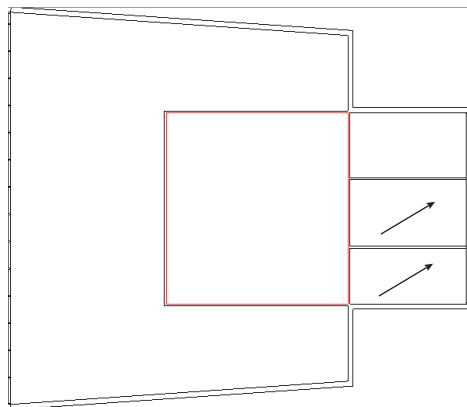

FIGURE 1.23 Add the wall segments as shown here.
6. Draw two walls inside the area at the right of the layout, as shown in Figure 1.23. Note that you may need to press the Esc key once at the end of each segment to continue the command for the next segment. Don't worry about the exact placement of these walls; you'll get to that next.